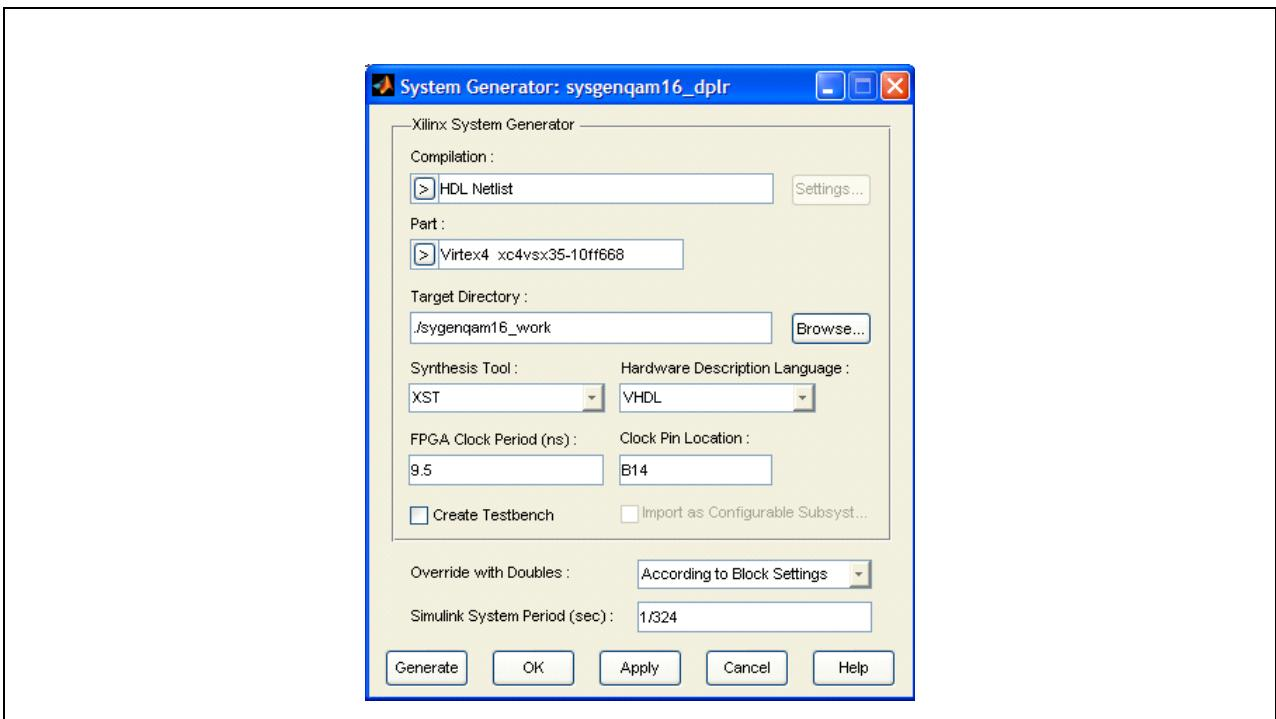

Figure 113: QAM System Generator Options
- Note the FPGA Clock Period setting (9.5ns in this case) as this determines how fast the design is capable of running if using a free running clock. The dialog box should then be similar to that shown in Figure 113 on page 195.